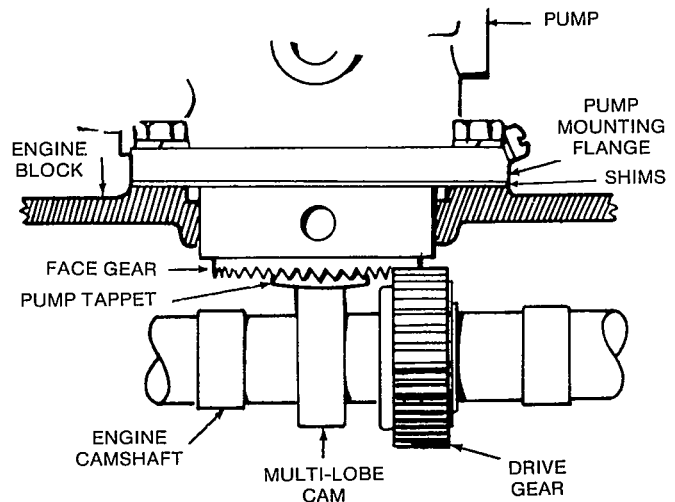

FIGURE 31. PUMP INSTALLED
3. With injection pump drive gear locked, place pump in mounting hole. Hold pump firmly against cylinder block. A slight spring pressure indicates that the pump and camshaft gears are meshed (Figure 31).